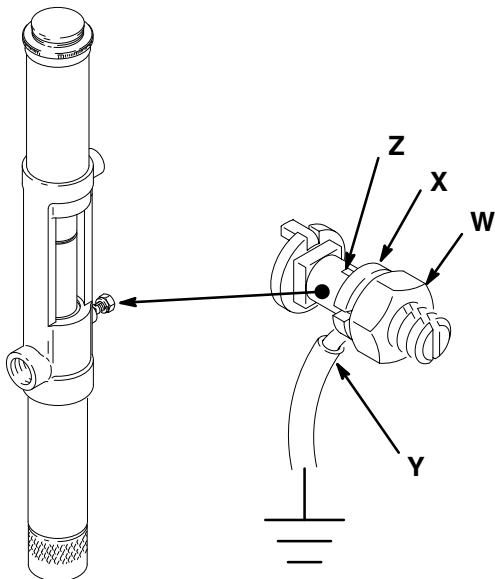

Fig. 2
- *Pump:* Use a ground wire as shown in Fig. 2.